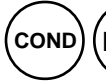

Figure 8
5. Press the   keys to select a Standard Solution to be linked to the User mode calibration constant. (see Fig. 8, **User** linked to **KCl**).